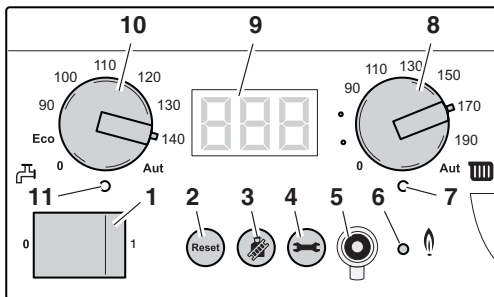

Fig. 1 Logamatic BC10 basic controller – Controls
- Press the "Service" button (fig. 1, pos. 4) until the system pressure ("P22") is shown in the display (pos. 9).